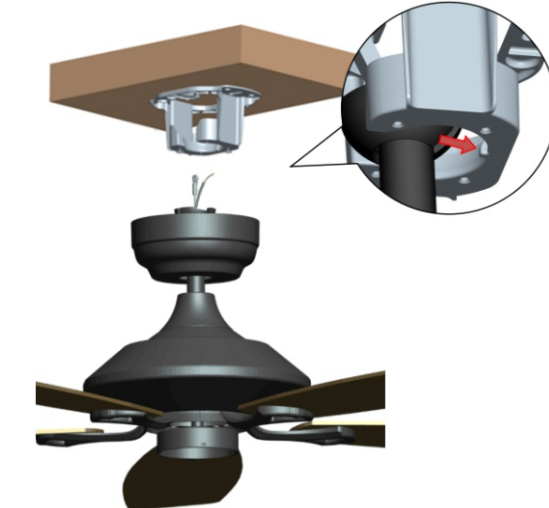

Fig 5.1
5.1 Hang the assembled ceiling fan on the mounting bracket that mounted to the ceiling as shown in Fig 5.1, pay attention to the enlarged image as shown in Fig 5.1. Install the ball end of the downrod into the opening of mounting bracket. Rotate the downrod until the tab in the mounting bracket is seated in the slot in the downrod ball.